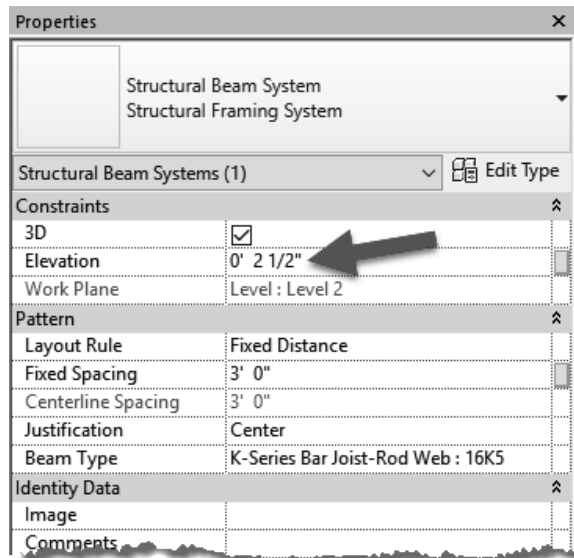

FIGURE 8-4.8 Instance properties for Beam System
33. Set the *Elevation* to **2 1/2"** and click **Apply** (Figure 8-4.8).
- f. See Figure 8-4.8.